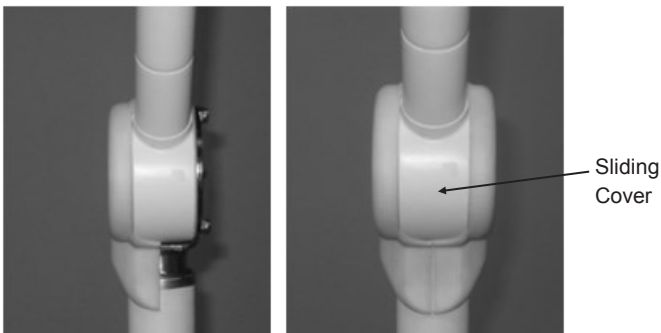

Figure 21 & 22: Left and right hand cover assembly.
6. Gently snap right hand cover onto spring arm in reverse order of removal instructions described above. When performing this step, ensure that the sliding cover (already on the spring arm) mates with a groove on the inside of the spring arm cover. Refer to **Figure 21**.